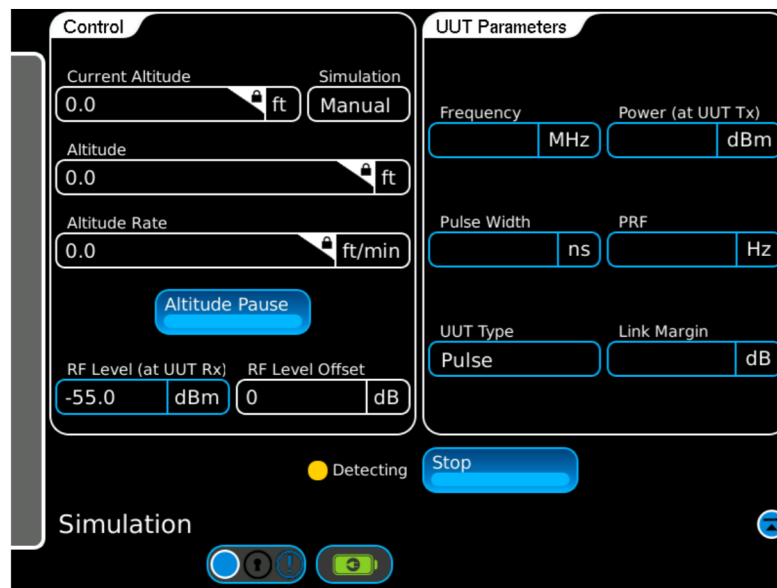

Figure 2-3 Simulation Screen
11. Ensure that an RF value is displayed in the **UUT Parameters – Power (at UUT)** window. If no power is displayed, check your connections and power to the UUT. See Figure 2-3.
14. Press the **Control - Altitude Pause** button to change the simulated altitude. See Figure 2-3.
18. Press the **Stop** button to stop the altitude simulation. See Figure 2-3.
12. Ensure that an RF value is displayed in the **UUT Parameters – Power (at UUT)** window. If no power is displayed, check your connections, coupler positioning, and power to the UUT. See Figure 2-3.
15. Press the **Control - Altitude Pause** button to change the simulated altitude. See Figure 2-3.
19. Press the **Stop** button to stop the altitude simulation. See Figure 2-3.